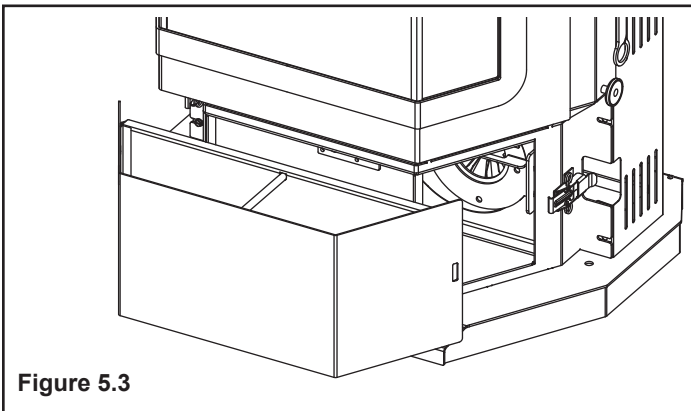

Figure 5.3
3. Slide ash pan forward enough to lift with center handle. Empty ashes and reinstall ash pan. Figure 5.3